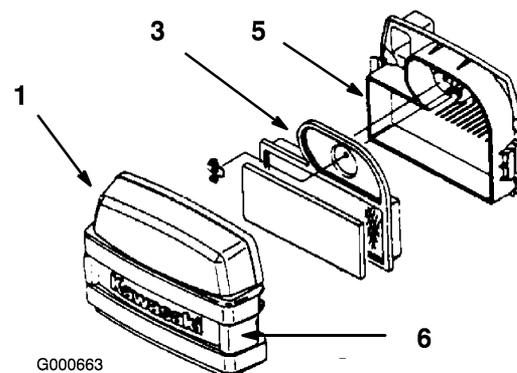

Figure 34
3. Clean around the air cleaner to prevent dirt from getting into the engine and causing damage. Unlatch the two side latches and remove the air cleaner cover (Figure 34).
4. Carefully remove the foam element from the paper element (Figure 34).
5. Unscrew the wing nut and remove the paper element (Figure 34).
1. Wash the foam element in liquid soap and warm water (Figure 34). When the element is clean, rinse it thoroughly.
1. Carefully slide the foam element into the paper air cleaner element (Figure 34).
2. Place the air cleaner assembly onto the air cleaner base and install the wing nut (Figure 34).
3. Install the air cleaner cover and latch it (Figure 34).